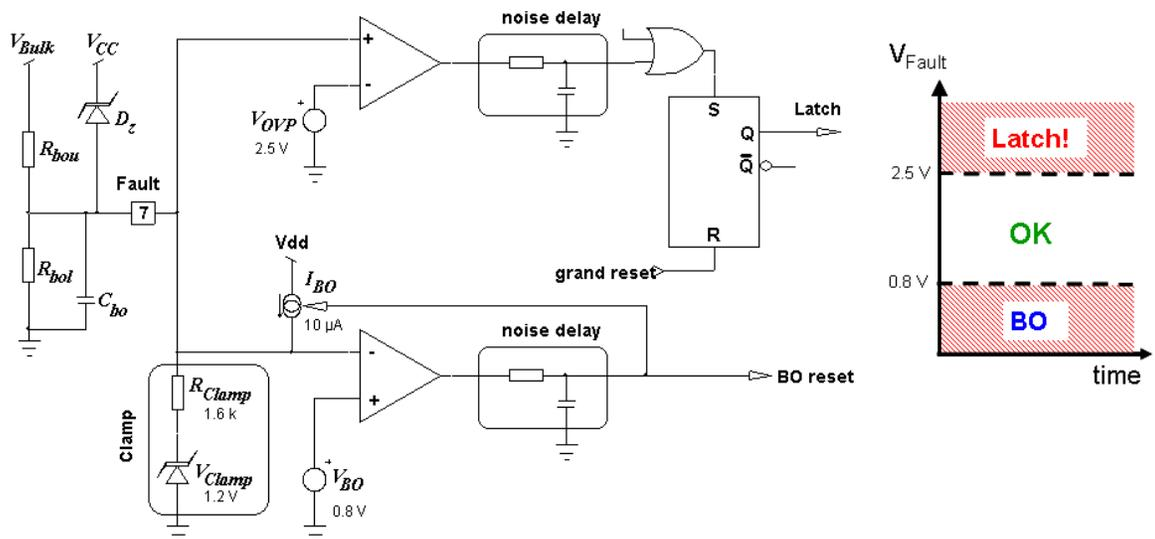

Figure 13. BO / OVP Combination in NCP1379, NCP1380 C and D Versions
The NCP1379, the C and D versions of NCP1380 feature a Brown-Out (BO) circuit which protects the power supply against low input voltage conditions (Figure 13).